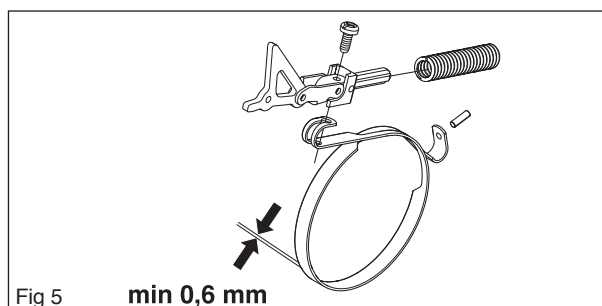

Fig 5
- Measure the thickness of the chain brake band. It must not be less than 0.6 mm in any place. See figure 5.
Screw the knee joint and the brake band together (see figure 5) using a tightening torque of 1-1.5 Nm. Place the knee joint with the fitted chain brake band in the opening in the clutch cover. The space for the spring in the cover must be lubricated with grease. See figure 6.